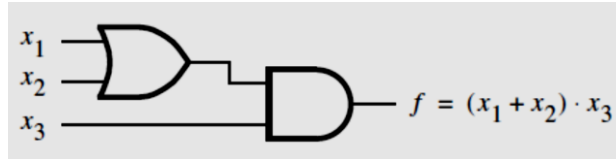

Figure 1.4
- A larger circuit is implemented by a network of gates, as shown in Fig. 1.4